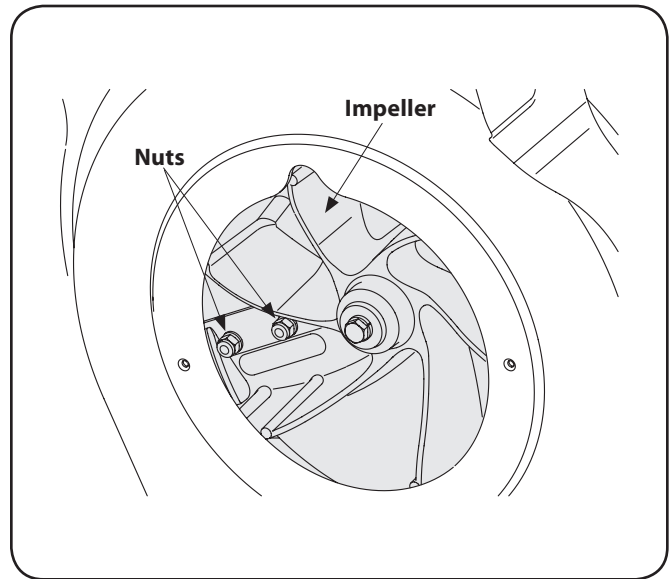

Figure 7-6
10. The nuts on the flat head cap screws can be reached from underneath using a 1/2-inch socket, universal, and extension. See Fig. 7-6.